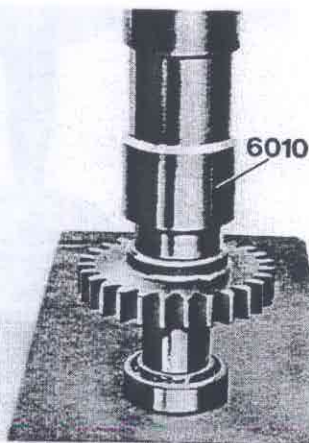

Fig. 48-29. Pressing on the bearing
3. Press on the rear bearing with 6110, see Fig. 48-29. Fix the flange key in position.